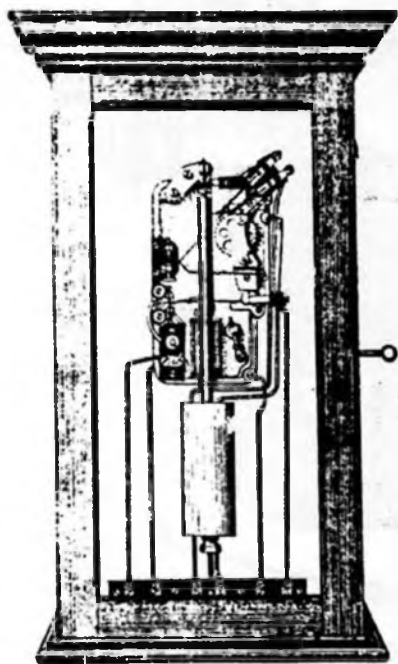

FIG. 1.—"CLOCK No. 46". GENERAL APPEARANCE
1. Description.—"Clock No. 46", the general appearance of which is illustrated in Fig. 1, is an electrically driven master clock with a $\frac{1}{4}$ -second beating pendulum, and is used to control chargeable-time clocks in telephone exchanges. It provides the following pulses:—